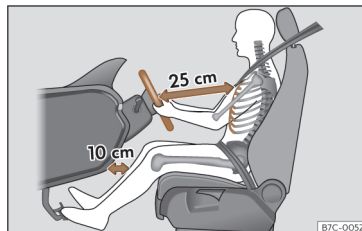

Fig. 13 The correct distance between the driver and the steering wheel must be at least 25 cm (10 inches).
- Adjust the steering wheel so that it is at a distance of at least 25 cm (10 inches) from the sternum >>> **Fig. 13** and can hold it with both hands on the sides, on the outside, with the arms slightly flexed.